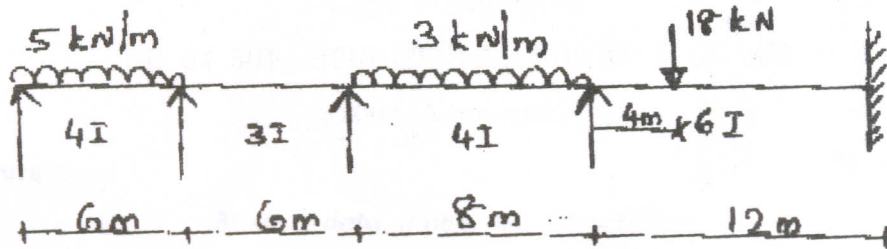

Fig. 5
- (b) Analyse the continuous beam shown in Figure 5 by Kani's method.